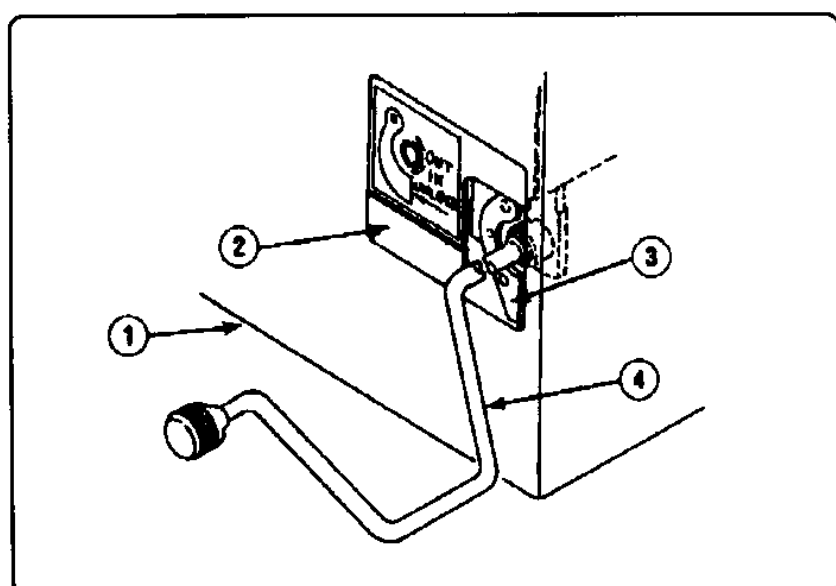

Fig. 4 - Method of Racking Circuit Breaker
Engage racking crank (4, Fig. 4) and push racking unlocking lever (3) to left, then rotate racking crank counterclockwise only until resistance to motion is felt (DO NOT FORCE). If closing springs were left in the "CHARGED" condition, they will automatically discharge.
To rack circuit breaker to "TEST" position, push racking unlocking lever (3, Fig. 4) to left, rotate racking crank approximately 1/4 turn clockwise, then release unlocking lever. Continue cranking until racking mechanism automatically stops at "TEST" position.
When racking circuit breaker to "CONNECTED" position, close compartment door (1, Fig. 4) and insert racking crank (4, Fig. 4) through sliding panel (2, Fig. 4).
Push unlocking lever (3, Fig. 4) to left and turn racking crank (4, Fig. 4) approximately 1/4 turn clockwise, then release unlocking lever. Continue cranking until racking mechanism automatically stops at "CONNECTED" position.
CIRCUIT BREAKER REMOVAL (See Fig. 4)